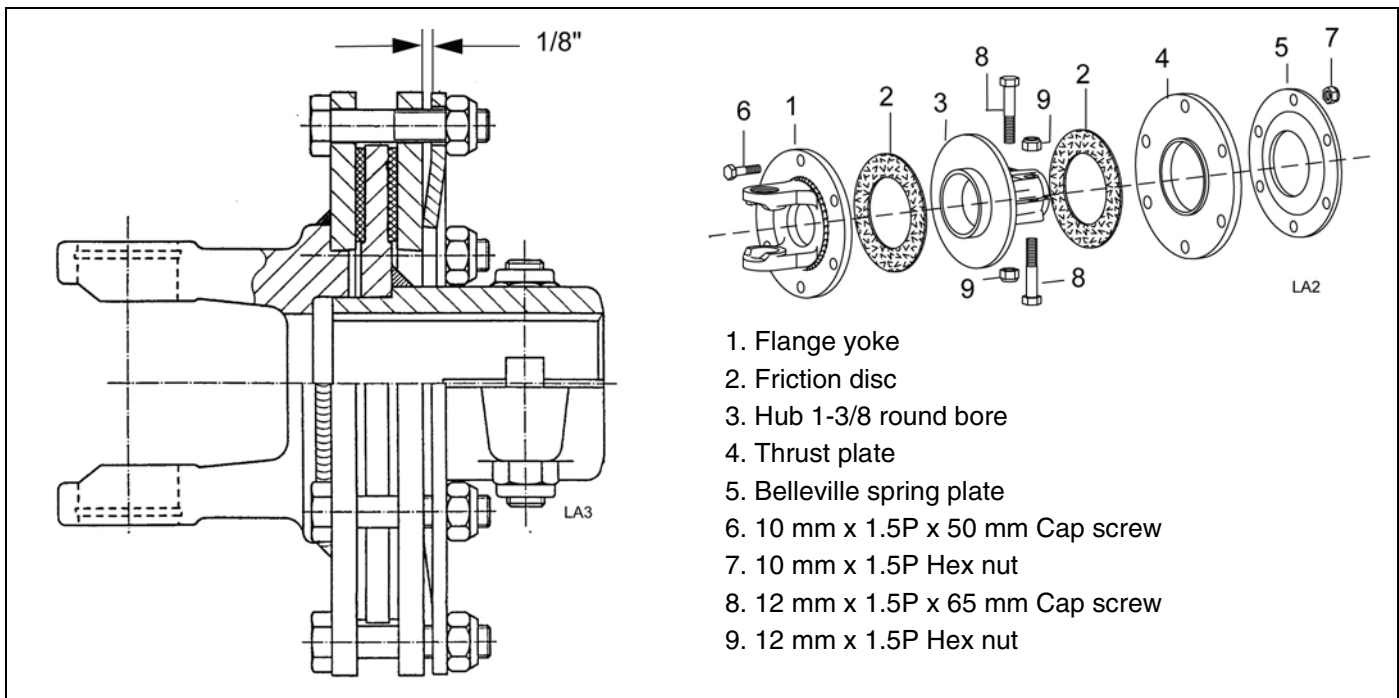

Figure 8. Slip Clutch Assembly
## SLIP CLUTCH ADJUSTMENT (FIGURE 8)
3. Loosen six 10 mm cap screws (6) to remove all tension from Belleville spring plate (5).
4. Hold clutch hub (3) solid and turn shaft to make sure clutch slips.
5. If clutch does not slip freely, disassemble and clean the thrust plate faces (4), flange yoke (1), and clutch hub (3).
7. Tighten Belleville spring (5) until it is against the thrust plate (4) of the clutch, and then back off each of the six nuts by 2 full revolutions. The gap between Belleville spring and thrust plate should be 1/8" as shown in Figure 8.
8. If a clutch continues to slip when the spring is compressed to 1/8" gap, check friction discs (2) for excessive wear. Discs are 1/8" when new. Replace discs after 1/16" wear. Minimum disc thickness is 1/16".